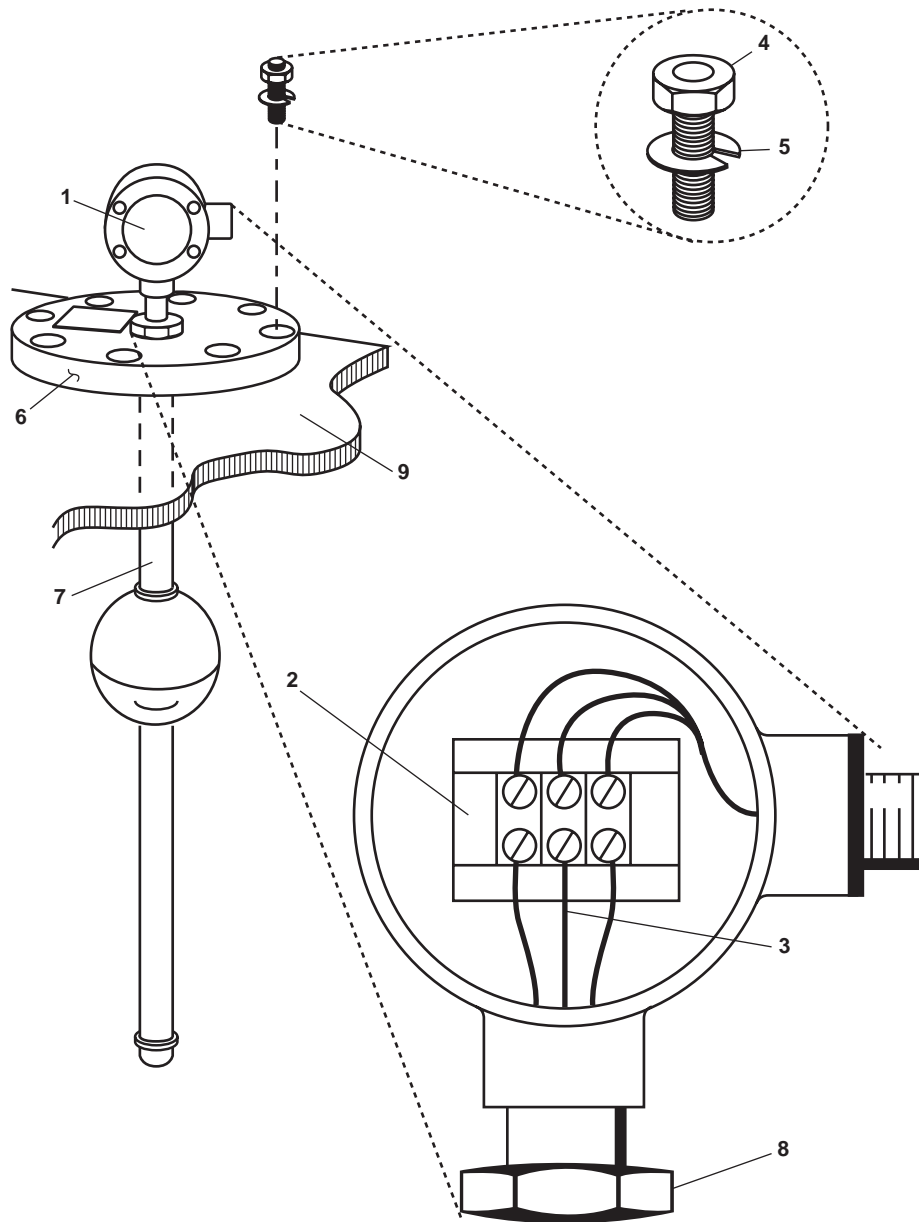

Figure 5. Junction Box and Flange Mounted Transmitter (Typical)
7. At the tank top, remove the junction box cover (figure 5, item 1).
8. Label the correct location of all terminals (figure 5, item 2) in the junction box, and label the terminals on the replacement TLI transmitter.
9. Disconnect the terminals (figure 5, item 2) that connect the TLI transmitter to the junction box (figure 5, item 1). Prepare the wires for removal by bundling the TLI transmitter wires (figure 5, item 3) together and tying about a twenty-four inch (60 cm) length of fibrous twine to the end of the wire bundle.
10. Remove the bolts (figure 5, item 4) and lockwashers (figure 5, item 5). Remove the flange (figure 5, item 6) from the top of the tank. Take care not to strike the TLI transmitter (figure 5, item 7) against any solid surfaces. Discard the lockwashers.
11. Remove the TLI transmitter (figure 5, item 7) from the flange (figure 5, item 6) by holding the TLI transmitter shaft securely and rotating the retaining nut (figure 5, item 8) counterclockwise.
12. When the retaining nut (figure 5, item 8) is free from the threads, gently pull the TLI transmitter (figure 5, item 7) away from the flange (figure 5, item 6) until both units are separated.
1. Remove the fibrous twine from the TLI transmitter wires (figure 5, item 3). Tie the fibrous twine securely around the wires of the replacement TLI transmitter.
2. Pull the fibrous twine from the dry side of the flange (figure 5, item 6), and guide the wires for the replacement TLI transmitter (figure 5, item 7) into place at the junction box terminals (figure 5, item 2).
3. Push the threaded end of the TLI transmitter stem (figure 5, item 7) into position through the bottom of the flange (figure 5, item 6) and into contact with the retaining nut (figure 5, item 8).
4. Rotate the retaining nut (figure 5, item 8) clockwise over the threaded end of the TLI transmitter (figure 5, item 7) and tighten several turns.
5. Position the junction box (figure 5, item 1) over the threaded end of the TLI transmitter (figure 5, item 7) while continuing to pull the wires (figure 5, item 3) into place with the fibrous twine.
6. When the junction box (figure 5, item 1) is in place and the wires (figure 5, item 3) are completely through the flange and free of interference, secure the junction box (figure 5, item 1) to the TLI transmitter (figure 5, item 7) by holding the junction box in place and rotating the TLI transmitter clockwise. Rotate until hand tight plus 1/8 of a turn. Do not over tighten.
7. Hold the TLI transmitter (figure 5, item 7) securely in place and tighten the retaining nut (figure 5, item 8).
8. Install the TLI transmitter in the tank. Install the flange (figure 5, item 6) to the top of the tank (figure 5, item 9) with the bolts (figure 5, item 4) and new lockwashers figure 5, item 5). Take care not to strike the TLI transmitter (figure 5, item 7) against any solid surfaces, or to stress the cable connections at the junction box (figure 5, item 1).
9. Remove the fibrous twine from the TLI transmitter wires (figure 5, item 3).
10. Connect the TLI transmitter wires (figure 5, item 3) to the junction box terminals (figure 5, item 2) using the label from step 9 of Removal as a guide. Remove the labels.